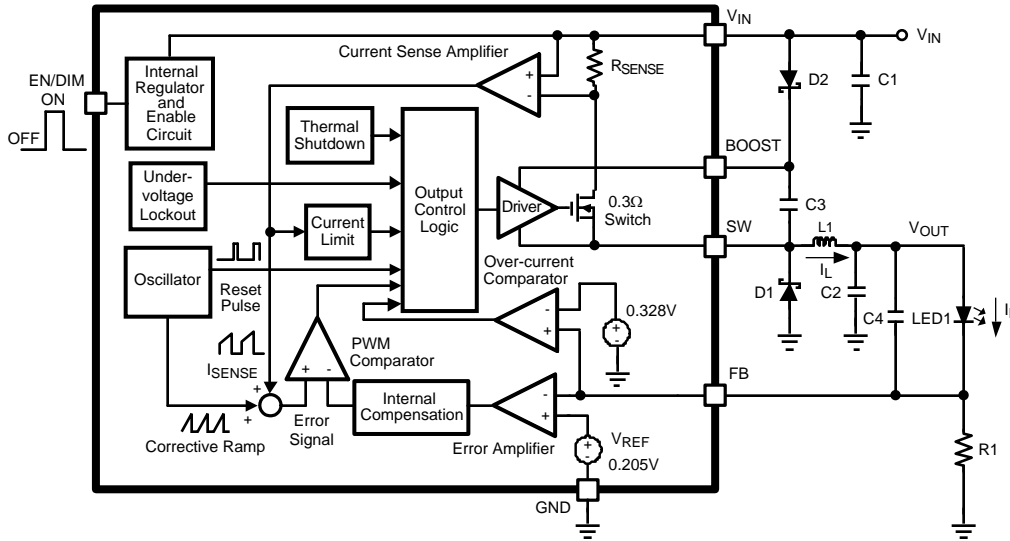
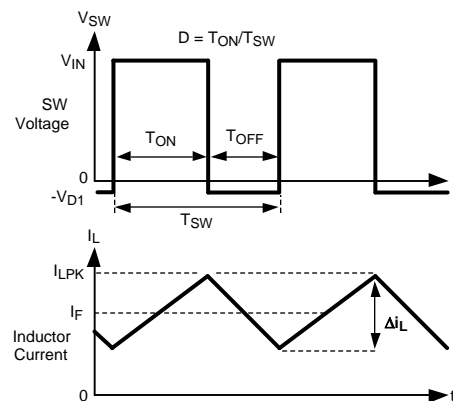

Figure 13. Simplified Block Diagram
Figure 14. SW Pin Voltage and Inductor Current Waveforms of LM3405
The following description of operation of the LM3405 will refer to the Simplified Block Diagram (Figure 13) and to the waveforms in Figure 14. The LM3405 supplies a regulated output current by switching the internal NMOS power switch at constant frequency and variable duty cycle. A switching cycle begins at the falling edge of the reset pulse generated by the internal oscillator. When this pulse goes low, the output control logic turns on the internal NMOS power switch. During this on-time, the SW pin voltage (V_{SW}) swings up to approximately V_{IN} , and the inductor current (I_L) increases with a linear slope. I_L is measured by the current sense amplifier, which generates an output proportional to the switch current. The sense signal is summed with the regulator's corrective ramp and compared to the error amplifier's output, which is proportional to the difference between the feedback voltage and V_{REF} . When the PWM comparator output goes high, the internal power switch turns off until the next switching cycle begins. During the switch off-time, inductor current discharges through the catch diode D1, which forces the SW pin to swing below ground by the forward voltage (V_{D1}) of the catch diode. The regulator loop adjusts the duty cycle (D) to maintain a constant output current (I_F) through the LED, by forcing FB pin voltage to be equal to V_{REF} (0.205V).
Capacitor C3 and diode D2 in Figure 13 are used to generate a voltage V_{BOOST} . The voltage across C3, $V_{BOOST} - V_{SW}$, is the gate drive voltage to the internal NMOS power switch. To properly drive the internal NMOS switch during its on-time, V_{BOOST} needs to be at least 2.5V greater than V_{SW} . Large value of $V_{BOOST} - V_{SW}$ is recommended to achieve better efficiency by minimizing both the internal switch ON resistance ($R_{DS(ON)}$), and the switch rise and fall times. However, $V_{BOOST} - V_{SW}$ should not exceed the maximum operating limit of 5.5V.
The first method is shown in the Simplified Block Diagram of Figure 13. Capacitor C3 is charged via diode D2 by V_{IN} . During a normal switching cycle, when the internal NMOS power switch is off (T_{OFF}) (refer to Figure 14), V_{BOOST} equals V_{IN} minus the forward voltage of D2 (V_{D2}), during which the current in the inductor (L1) forward biases the catch diode D1 (V_{D1}). Therefore the gate drive voltage stored across C3 is:
The inductor value determines the output ripple current (Δi_L , as defined in Figure 14). Lower inductor values decrease the size of the inductor, but increases the output ripple current. An increase in the inductor value will decrease the output ripple current. The ratio of ripple current to LED current is optimized when it is set between 0.3 and 0.4 at 1A LED current. This ratio r is defined as: